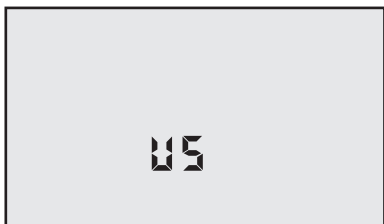

Figure 15
3. Press  to change. Display will now indicate other format (see Figures 15 & 16).